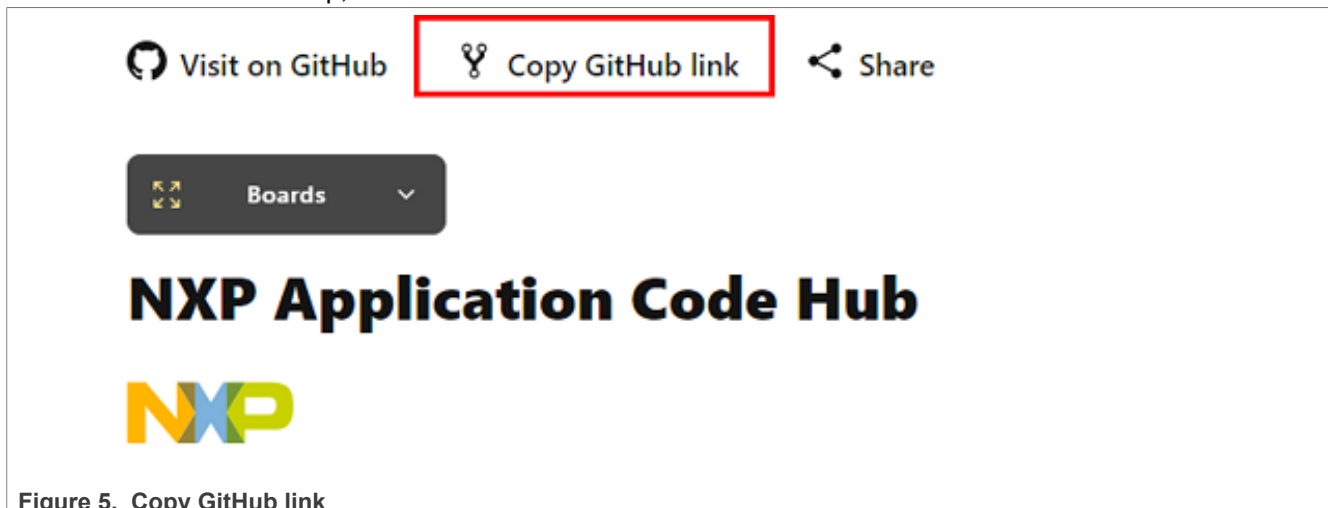

Figure 5. Copy GitHub link
- As shown in Figure 5, click the **Copy GitHub link** icon. MCUXpresso IDE automatically retrieves project attributes. After this step, click **Next**.